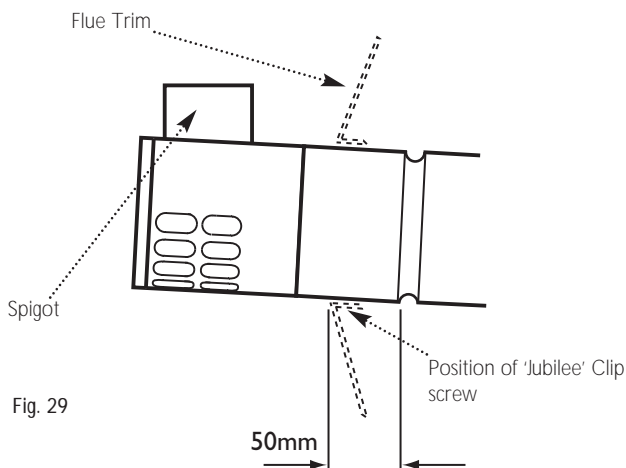

Fig. 29
5. If required, the flexible flue trim should be fitted prior to this as it cannot be fitted after. Use the large 'Jubilee' clip to secure the trim to the flue (See Fig. 29, trim shown dotted), with the screw part of the clip at the bottom.